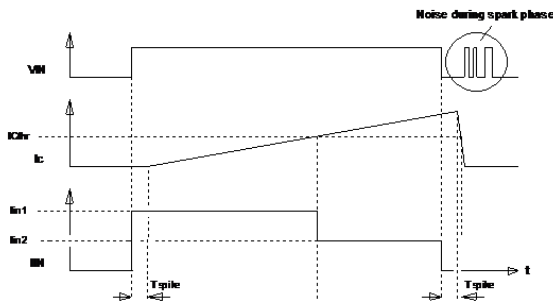

Figure 4: Bidirectional IN/IFL Diagnostic Pin
b) The IN/IFL pin sinks constantly a current of I_{IN1} . When the input voltage is above V_{INH} and the collector current exceeds the I_{cTHR} threshold, the current flag is set by switching a current sink at the bidirectional IN/IFL pin to I_{IN2} (see Fig.4)